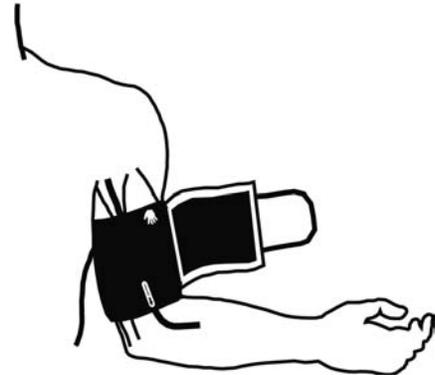

Fig. 1
1. Insert the patient's arm through the sleeve as shown by the hand label (Fig. 1). Palpate the brachial artery. Slide the sleeve up the arm so the ARTERY MARKER is over the artery. Wrap cuff snugly around the arm (Fig. 2).